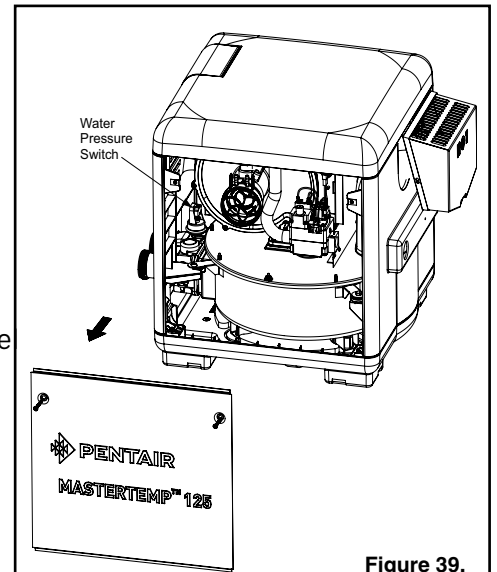

Figure 39.
5. Remove the access door panels by unfastening the two (2) screws located on each door, then lift up and out from the bottom of the panel to remove. If necessary, the screws may be used as handles, see Figure 39.
6. Toggle-Style Valve: Pull toggle toward you to turn gas off , see Figure 39.
7. **Wait five (5) minutes to clear out any gas. If you then smell gas, STOP! Follow "B" in the "Before Start-up" instructions (page 42). If you don't smell gas, go to the next step.**
3. Remove the access door panels, see Figure 39.